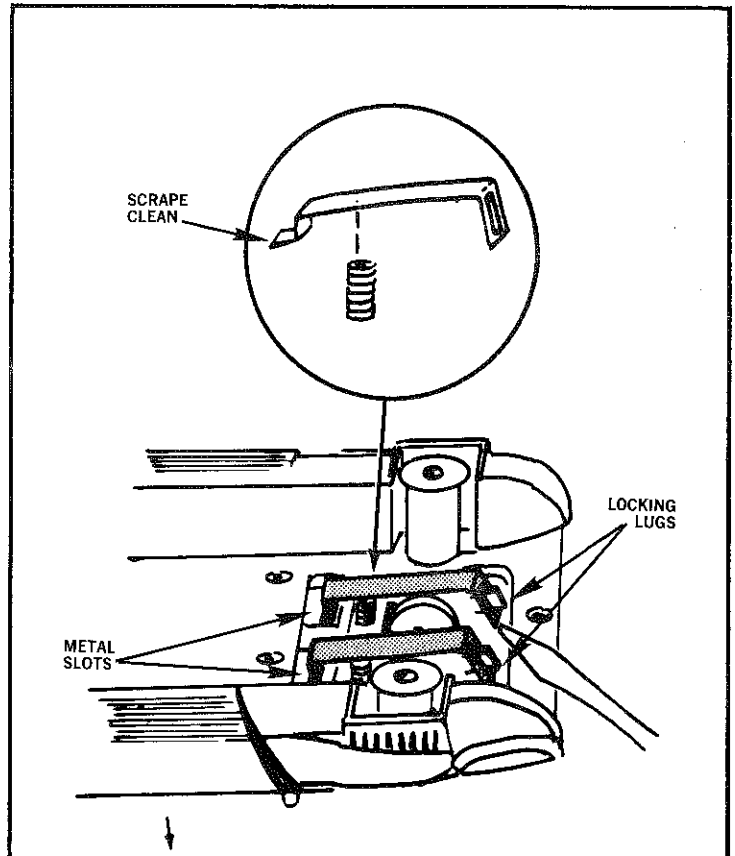

FIGURE 19
When the brass contact strips on the locomotive become badly grooved or worn through, they should be replaced. To remove the strips, pry loose the front of each strip from its plastic locking lug with a screwdriver (see Fig. 19). Be careful not to lose the coil spring that is under the strip. Now unhook the back of the strips from the metal slots. To replace, hook the back end of the strip into the metal slot, put the coil spring in place, and press the front of the strip until the slot in the strip snaps over the locking lug.
- Periodically remove the brass contact strips from the locomotive and scrape clean with the tip of a screwdriver on the surface shown in Fig. 19.